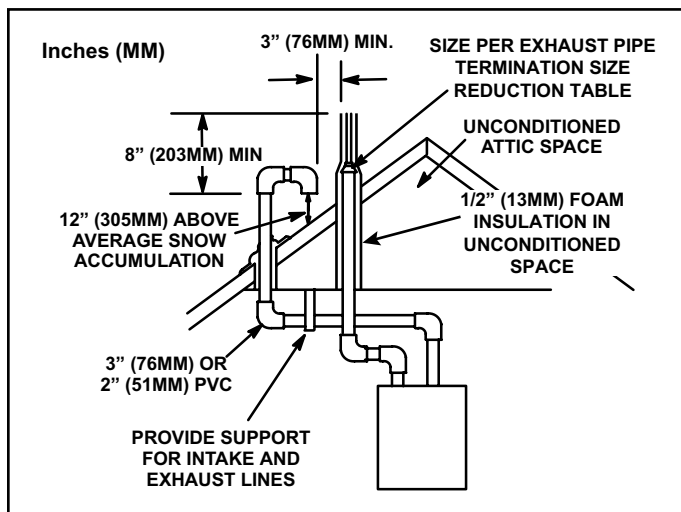

Figure 36. Direct Vent Roof Termination Kit (15F75 or 44J41)
Intake and exhaust pipes may be routed either horizontally through an outside wall or vertically through the roof. In attic or closet installations, vertical termination through the roof is preferred. Figure 36 through Figure 44 show typical terminations.
3. On roof terminations, the intake piping should terminate straight down using two 90° elbows (See Figure 36).